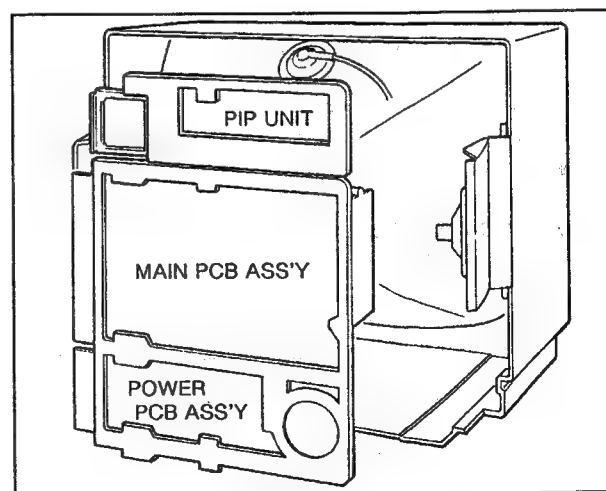

Fig. 6
- 1. Stand the set on the PIP unit side as indicated in Fig. 6. Disengage wire clamps and connectors as required.